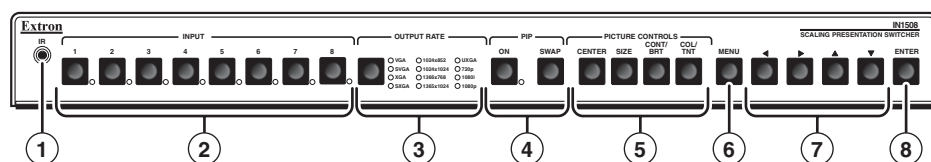
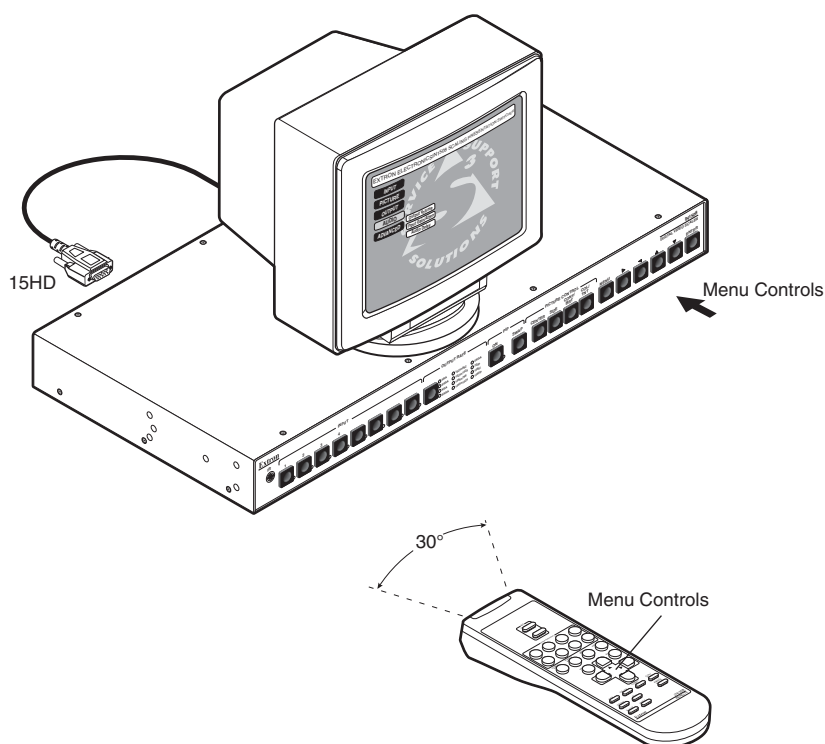
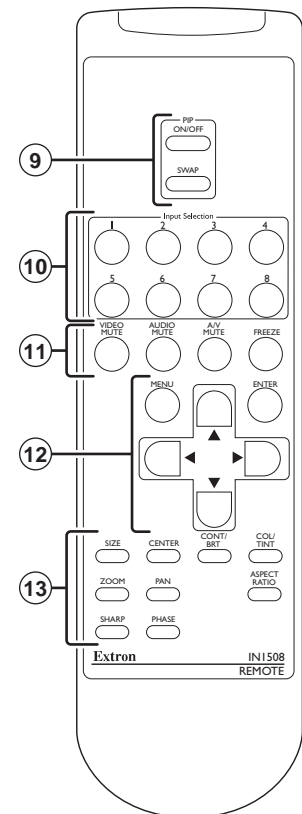

Figure 3-1 — IN1508 video switcher and switcher front panel
Figure 3-2 — Menu system display
Figure 3-8 — IR remote control
All of the switcher's controls are on the front panel (figure 3-1). Many controls are duplicated on the IR remote control (figure 3-8 on page 3-7). Front panel LEDs provide graphic indication of some of the basic system functions. For more complex tasks, such as system configuration, the switcher has a menu system that is operated by using the front panel or IR remote control buttons. The menu system reports via an on-screen display on the connected output device (figure 3-2).
- ① **Infrared remote sensor** — This sensor receives infrared (IR) signals from the included IN1508 remote control. The IR remote control must be pointed within 30 degrees of this sensor (figure 3-2) for best results.
To control the switcher with the hand-held IN1508 Remote control (figure 3-8), aim the hand-held unit at the IR detector on the switcher and press the desired buttons on the remote. The maximum operating range is 30 feet.